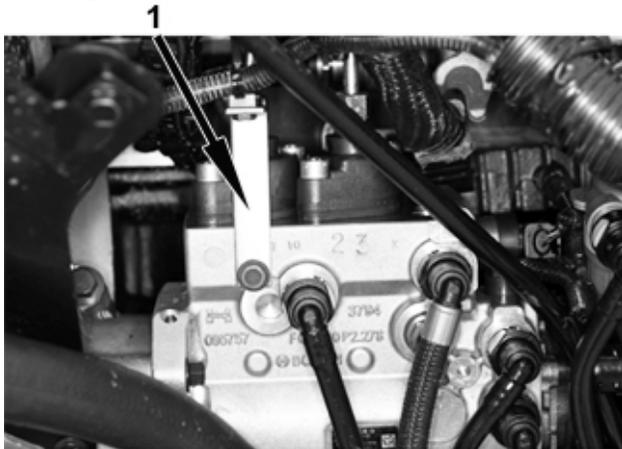

Figure 17
4. Inspect fuel case area (close to power steering pump) to see if extension stand-off bracket, saddle, and cable strap have already been installed (Figure 17). If extension stand-off is present, remove fuel case bolt that secures it, cut cable strap that is securing alternator harness, and discard extension stand-off as it will not be used (Figure 17).